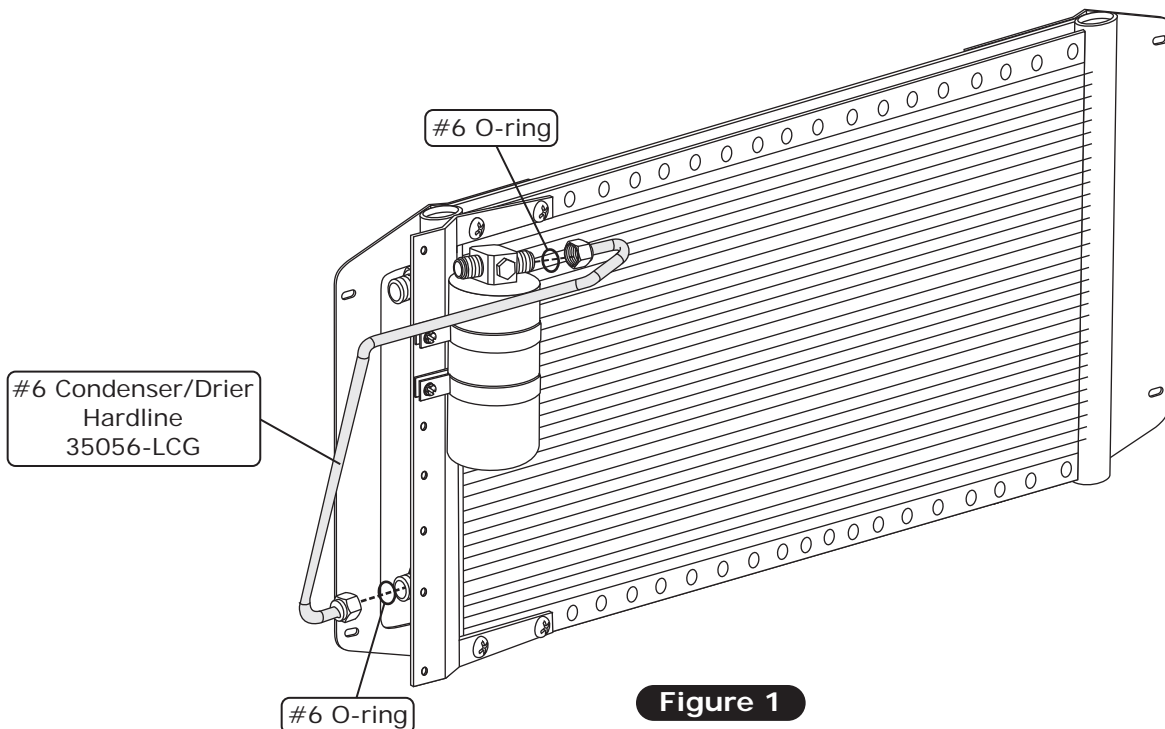

Figure 1
1. Lubricate (2) #6 O-rings (See Lubricating O-rings, above), and install the #6 condenser/drier hardline as shown in Figure 1, below. Tighten fittings as shown in Lubricating O-rings, above.